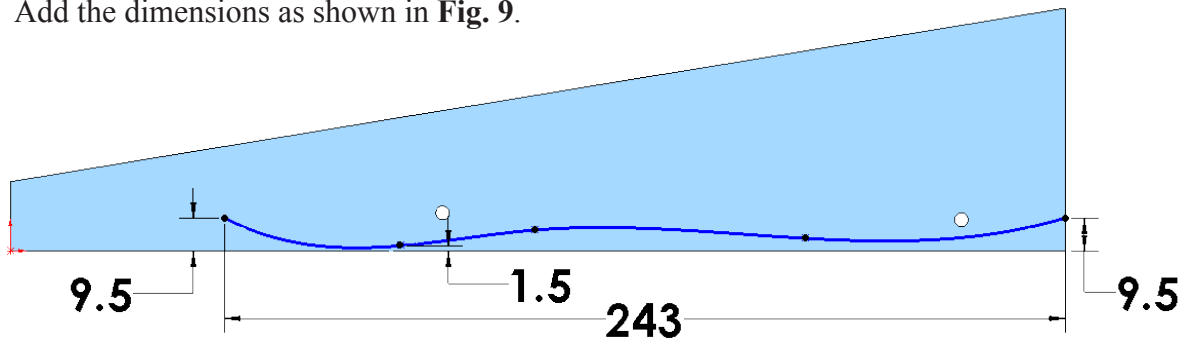

Fig. 9
Step 4. Click **Smart Dimension**  (S) on the Sketch toolbar.
Step 5. Add the dimensions as shown in **Fig. 9**.